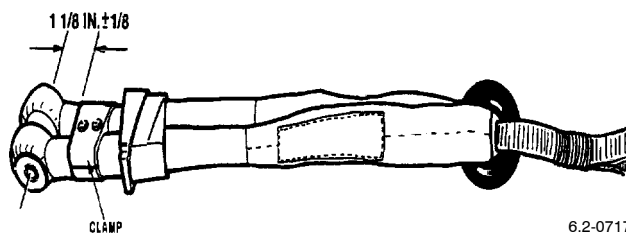

Figure 4. Condition of Withdrawal Line Clamp
(1) Check markings for completeness, legibility, and agreement with information on Parachute Record (OPNAV 4790/101), mark if necessary.
(2) Compare configuration of parachute assembly to that shown in WP 026 04 Illustrated Parts Breakdown and Record of Applicable Technical Directives.
c. Clamp for attachment and condition. Verify countersunk half is at bottom. Check location dimension (Figure 4). (QA)